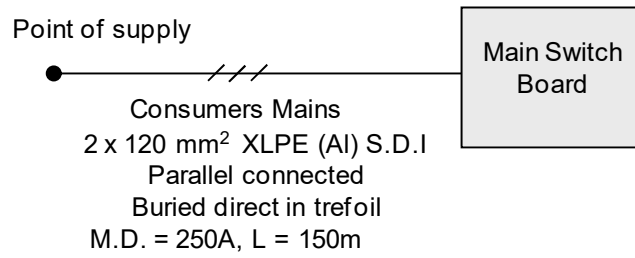

figure 6.
15. Calculate the voltage drop on the paralleled consumers mains in figure 6(hint see AS3000 clause 3.6.3)